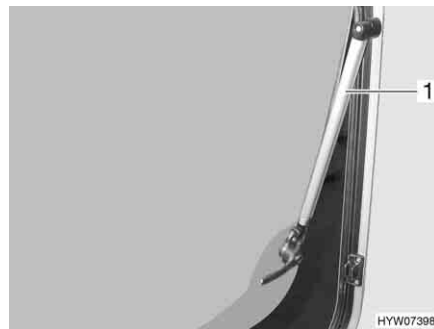

Fig. 78 Hinged window with automatic hinges
- Open the hinged window to the desired latched position. The automatic hinge (Fig. 78,1) locks in place automatically.